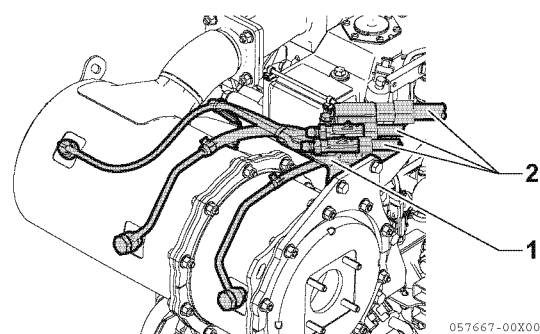

Figure 13-22
- Remove the exhaust differential pressure sensor connected to the sensor bracket (**Figure 13-22, (1)**) and the wiring from the engine or driven machine that is connected to the exhaust temperature sensor couplers (2 pcs.) (**Figure 13-22, (2)**).